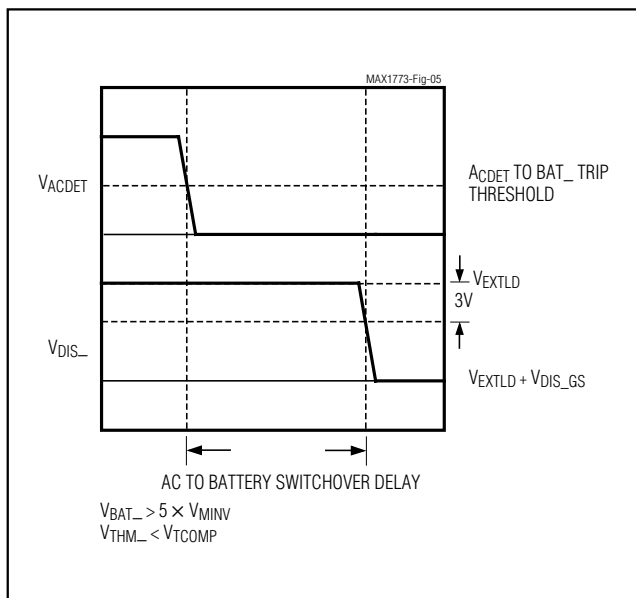

Figure 5. AC to Battery Switchover Delay
**Note 9:** AC to Battery Switchover Delay begins when VACDET falls below its threshold and ends when both  $V_{COM\_}$  and  $V_{DIS\_}$  of the battery being switched to have fallen 3V below their sources (Figure 5).